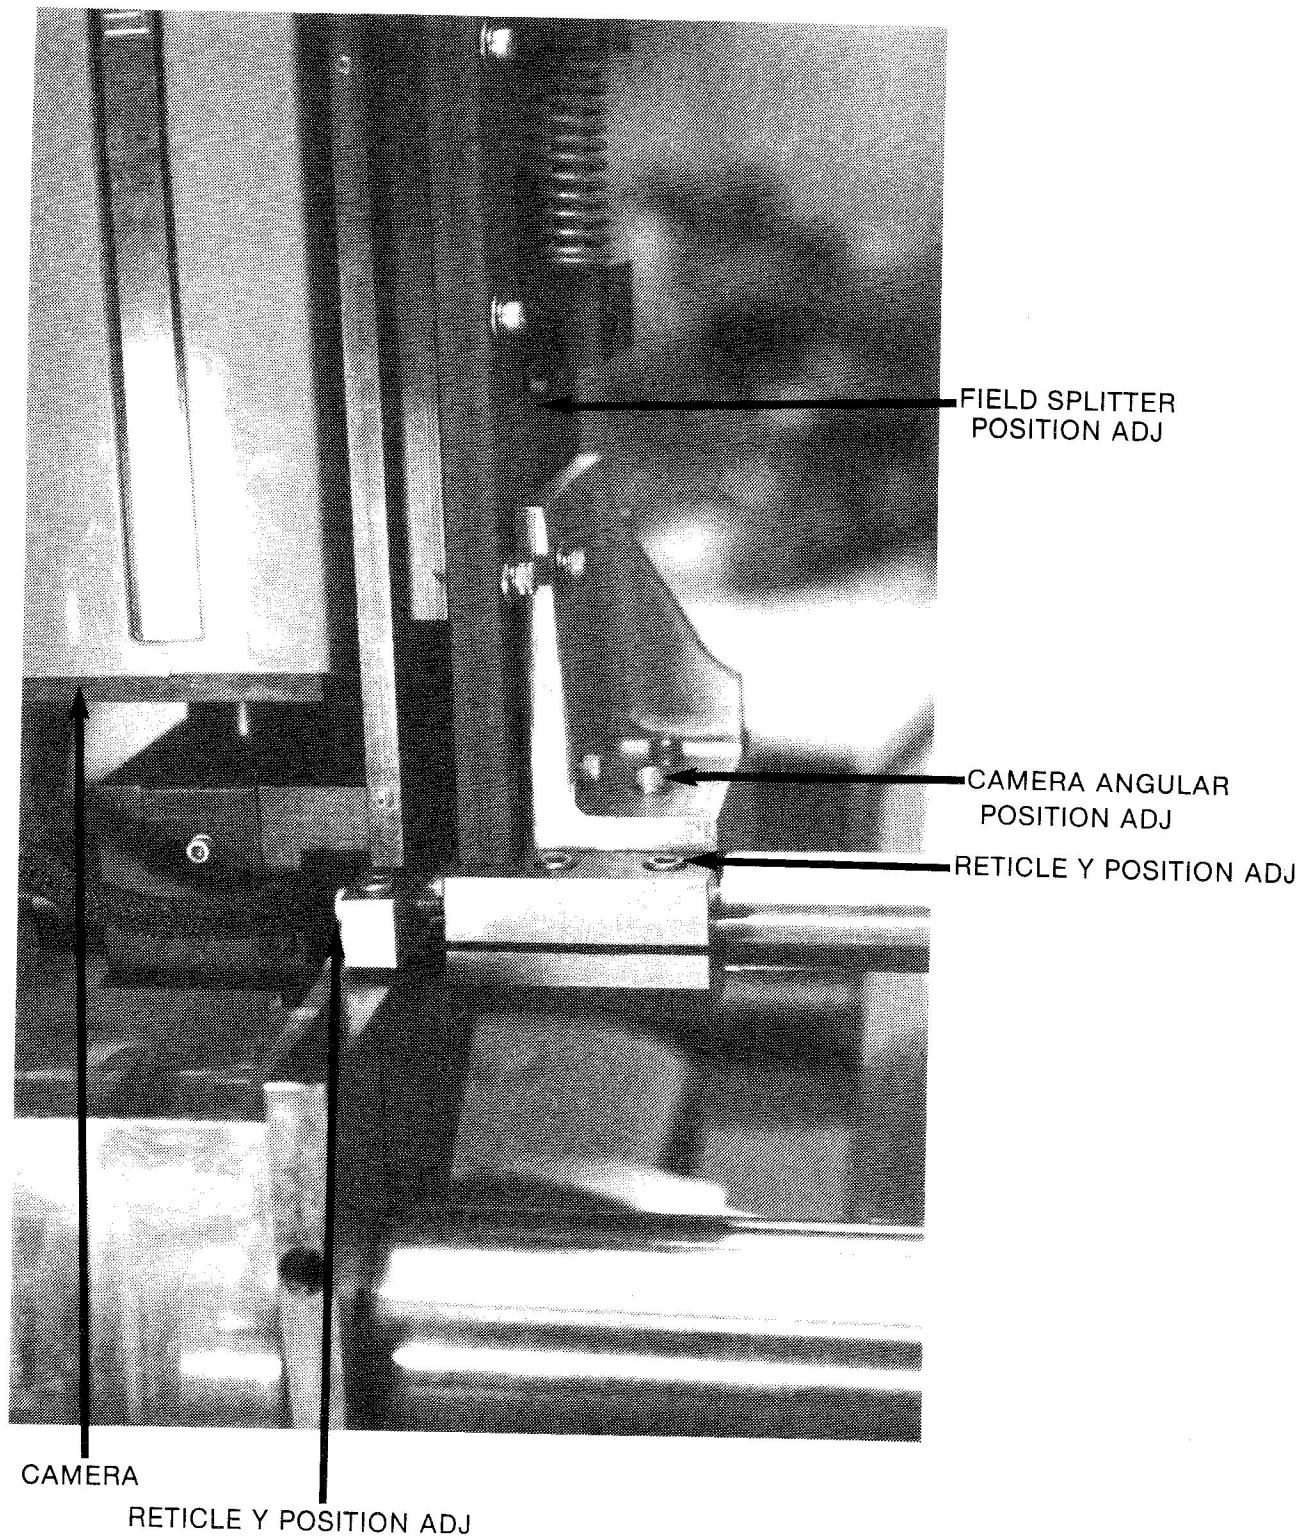

FIGURE 16
4.35 For reticle Y position alignment adjustment: See figure 16
4.39 For camera angular position adjustment: See figure 16